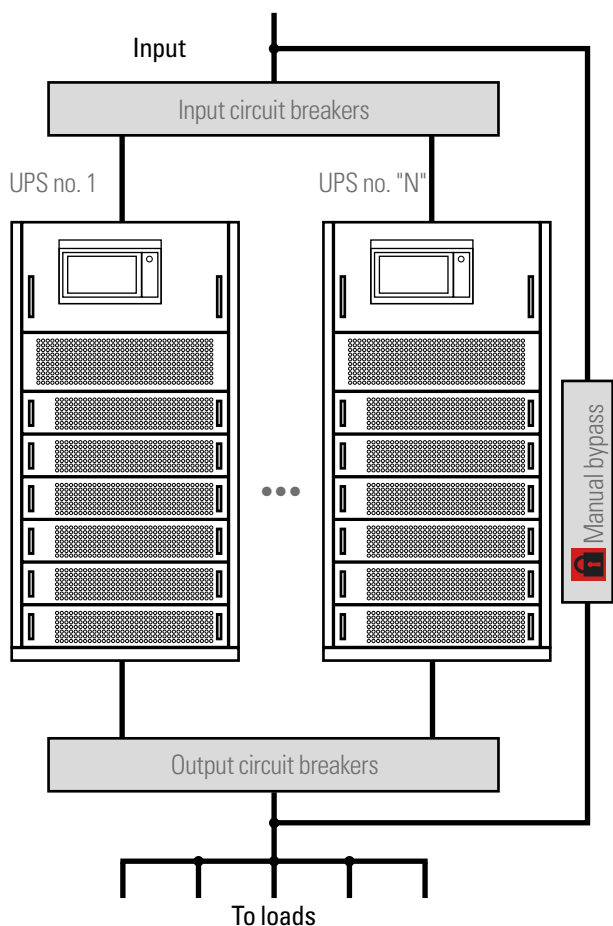
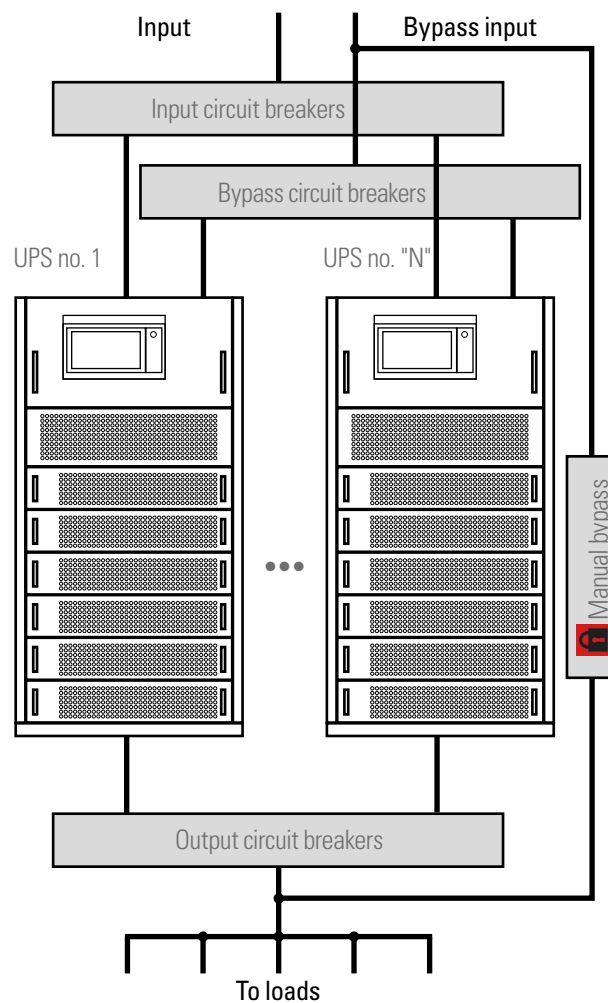

Fig. 40. Example of a parallel system with a single AC mains supply and manual bypass panel.
Fig. 41. Example of a parallel system with a separate static bypass line and manual bypass panel.
- In addition to the communications bus, the parallel systems that are installed must be equipped with a panel that has individual input and output protection devices, as well as a manual bypass with mechanical locking. See Fig. 40 or Fig. 41 depending on whether or not there is a separate static bypass line.